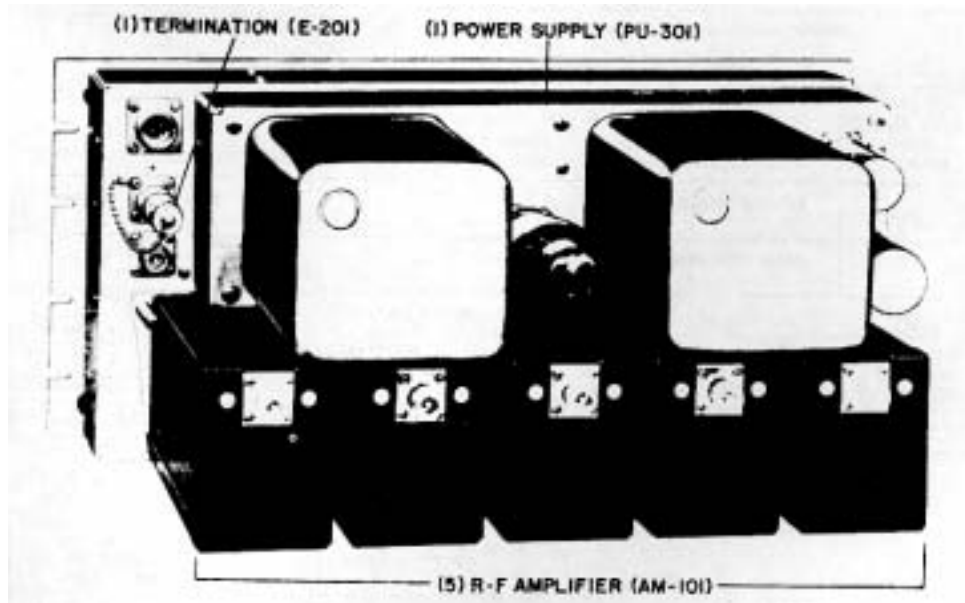

Figure 1-2. Antenna Coupler CU-168/FRR, Rear Oblique View
equipment. The front of the panel is finished in standard Navy gray enamel. Other chassis parts, with the exception of the r-f amplifiers, are finished in clear waterdip lacquer. The panel forms the cover of the main chassis, which in turn supports a number of plug-in subassemblies (see figure 1-2).
b. Each of the five r-f amplifiers (see figure 1-2) contains four type 12AU7 double-triode amplifier tubes and related components. Electrical connections are made when the amplifiers are mounted on the main chassis and secured with two captive screws. Connections to the communications receivers are made through the r-f connectors on the rear of each amplifier. Each amplifier has a dust cover which can be removed without interrupting operation of the equipment. The covers are finished in dull black lacquer. They are secured by two dzus fasteners located near jack J-101. The covers may be removed without interrupting operation of the equipment.
c. The power supply subassembly (see figure 1-2) contains a power transformer, type 5U4G rectifier tube, filter, and related components. The subassembly is retained on the main chassis by means of six captive screws. Electrical connections are completed when the power supply is mounted.
a. SINGLE ANTENNA COUPLER. Install termination subassembly E-201 in receptacle J-203 (see figure 1-2). Secure by turning the plug retaining collar clockwise.